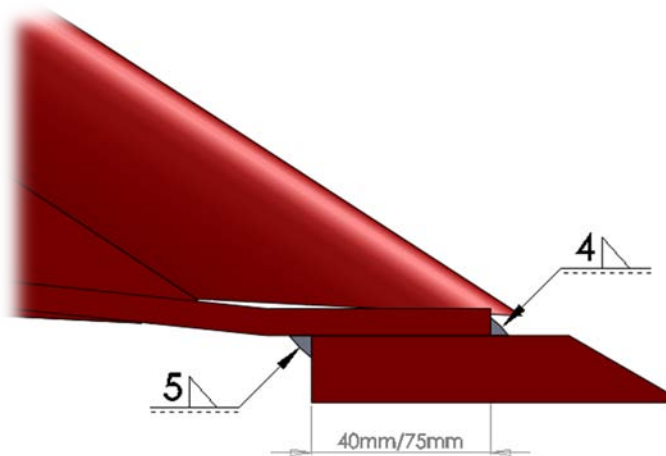

Figure 3.3.1-Blade overlap for hydraulic loading buckets
- b) The blade/bucket overlap is 40mm with an 80mmx15mm manganese blade, and 75mm with a 150mmx20mm boron blade. (See figure 3.3.1)